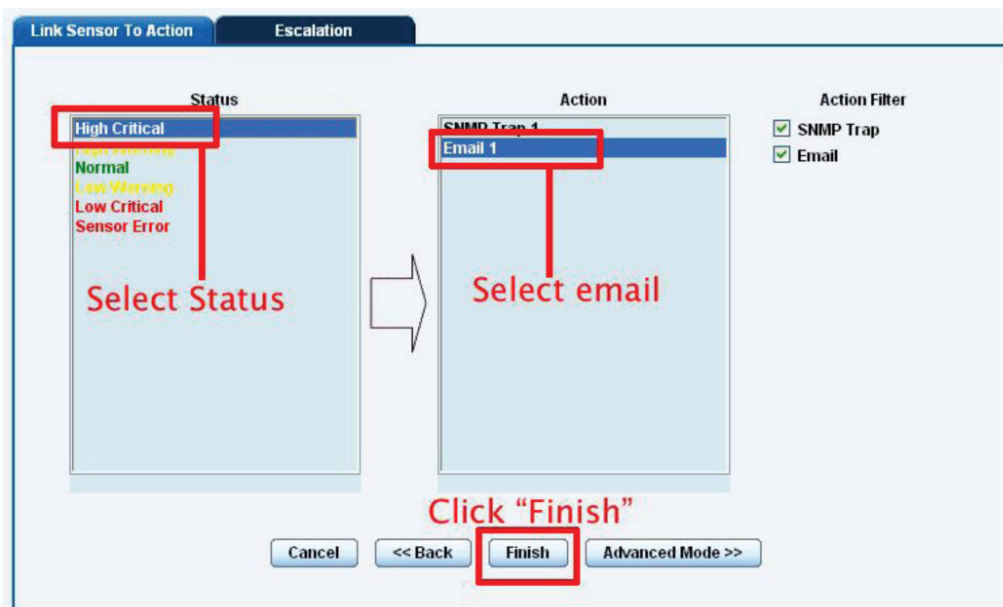

Figure 4-20. Create notification tab: select status, select e-mail.
14. You will now be back at the main notification page. You should now see listed our two notifications, the SNMP trap and the e-mail. (See Figure 4-20.)